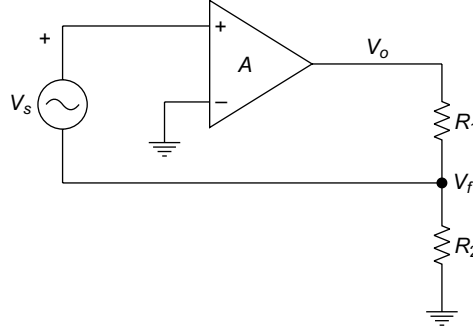

Fig. 2.23 Circuit of Ex. 2.8
2.8 A feedback amplifier circuit is shown in Fig. 2.23 with the gain of amplifier $A = 100 \angle 180^\circ$, $R_1 = 10 \text{ k}\Omega$ and $R_2 = 150 \text{ k}\Omega$.